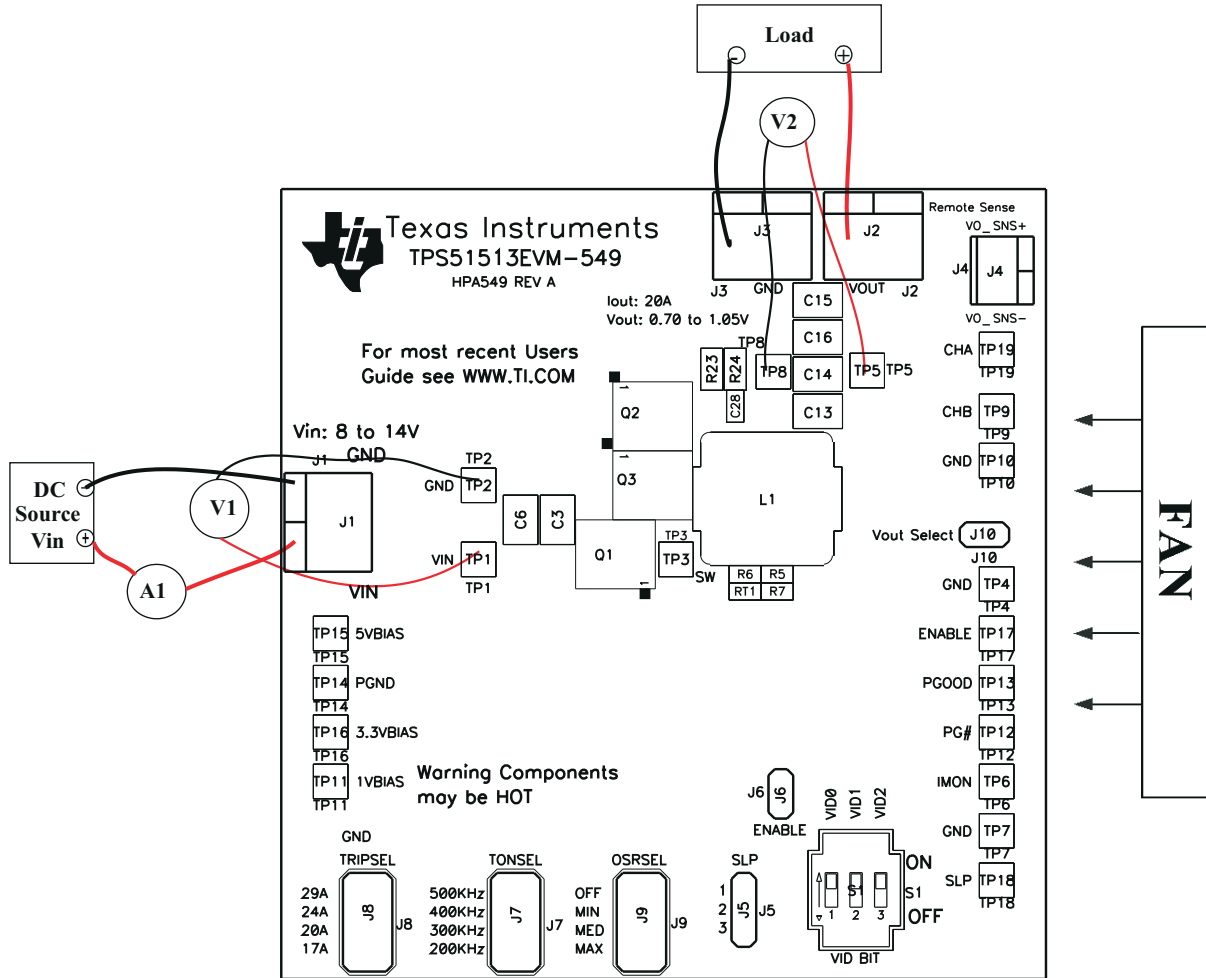

Figure 4-2. TPS51513EVM-549 Recommended Test Setup
Voltage Source: The input voltage source, V_{IN} , must be a 0-V to 14-V variable DC source capable of supplying 10 A_{DC} . Connect V_{IN} to J1 as shown in Figure 4-2.
Multimeters: A 0-V to 14-V voltmeter (V1) must be used to measure V_{IN} at TP1 (VIN) and TP2 (GND). A 0-V to 5-V voltmeter (V2) is necessary for V_{OUT} measurement at TP5 (VOUT) and TP8 (GND). A 0-A to 10-A current meter (A1) as shown in Figure 4-2 is used for input current measurements.
Figure 4-2 is the recommended test setup to evaluate the TPS51513EVM-549. Working at an ESD workstation, ensure that any wrist straps, bootstraps, or mats are connected, referencing the user to earth ground before handling the EVM.
1. Prior to connecting the dc input source, V_{IN} , it is advisable to limit the source current from V_{IN} to 10 A maximum. Ensure that V_{IN} is initially set to 0 V as shown in Figure 4-2.
Place a fan as shown in Figure 4-2, and turn it on, ensuring that air is flowing across the EVM.